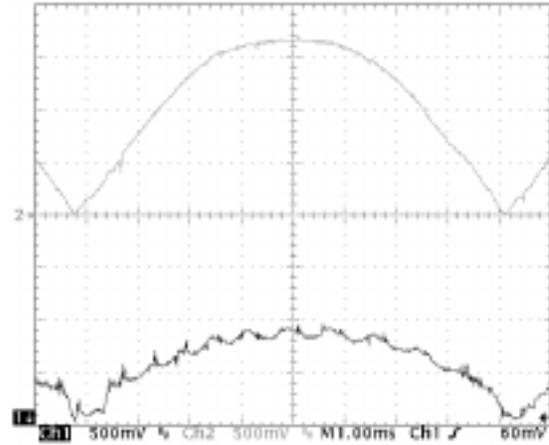

Figure 4. Current Shaping Loop Oscillations
4. If the voltage error amplifier and average current signal are both good, harmonics may be reduced by increasing the bandwidth of the AC error amplifier. To do this decrease the value of C3. Be cautious when doing so, to maintain loop stability. If there are oscillations on pins 10 and 11 (see Figure 4), reduce the gain of the current shaping loop by decreasing the value of R3 and increasing the value of C3 by the same percentage.